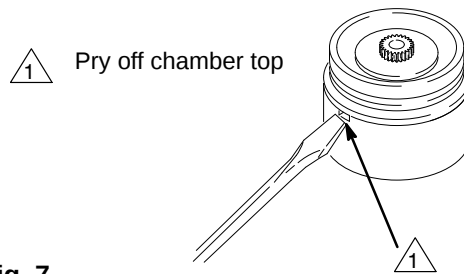

Fig. 7
3. Insert a screwdriver into the notch of the chamber assembly (G) and pry off the top chamber (B). See Fig. 7. Remove all parts.
4. Clean and blow dry the parts. Examine the outer surface of the piston and the inner surface of the chamber for pitting or scoring. If any parts are worn or damaged, replace the complete chamber and piston assembly (G).
5. Hold (E) open end up. Insert (D). Insert (C). Align slot and bearing of (B) with parts inside (E) and snap together. Place gear into (B). Place the piston and chamber assembly (G) into the housing and turn it to be sure the gears mesh. With the screen (H) and o-ring (J) in place, tighten the cap (K) firmly into the housing (F).